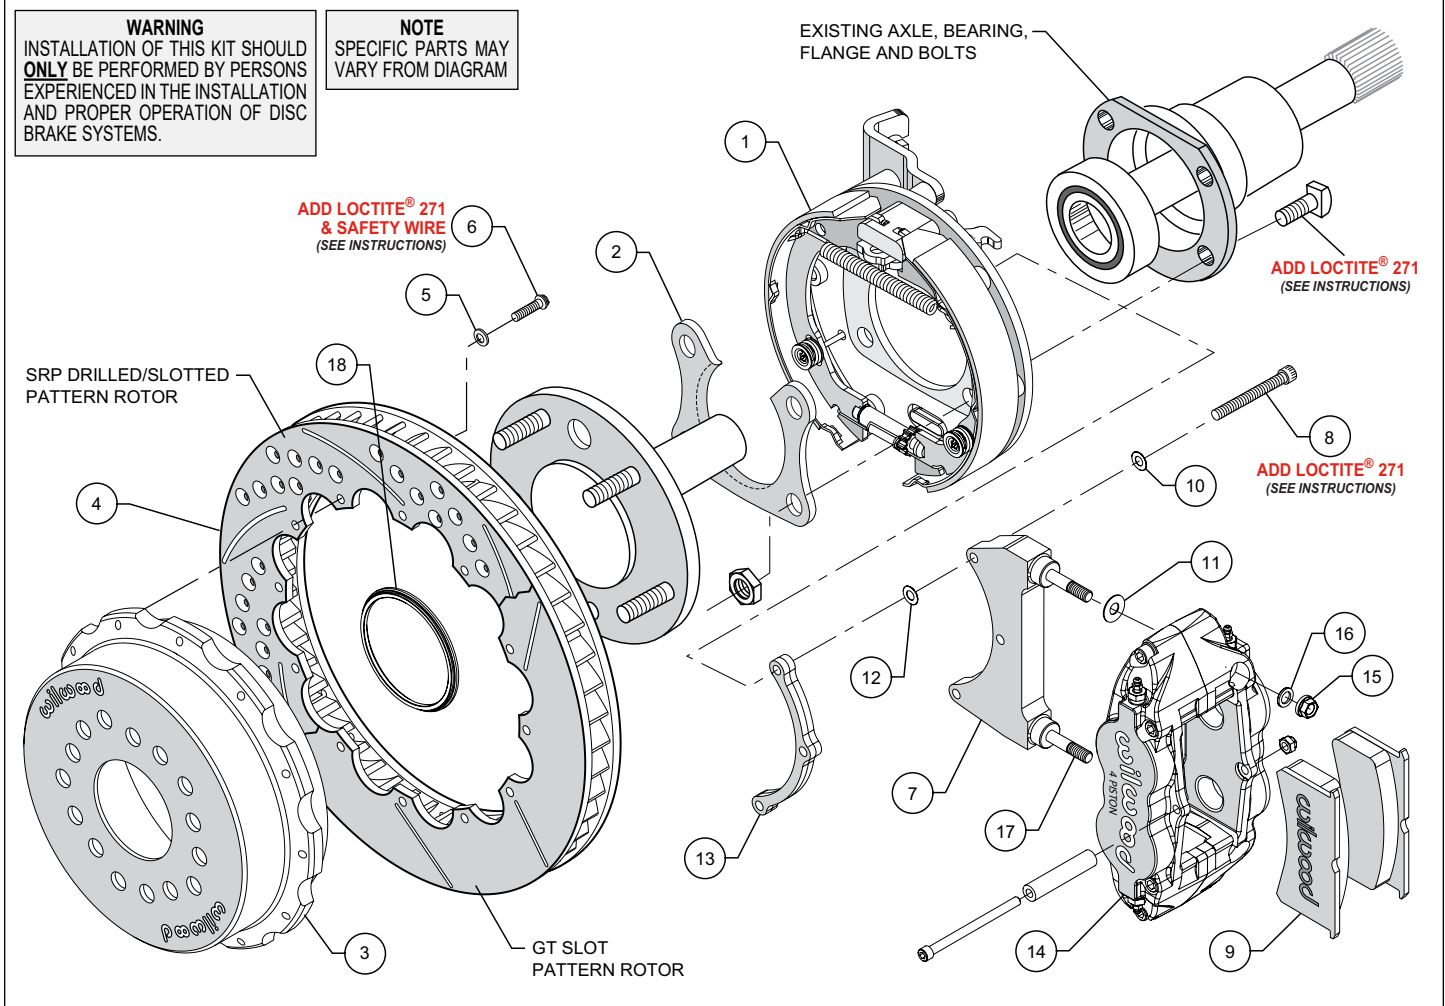

Figure 1. Typical Installation Configuration
NOTE: Numbers in parenthesis refer to the parts list and Figure 1 on the preceding pages.
- Slide the bracket kit assembly (1) onto the housing flange and then insert the axle assembly through the center hole of the bracket kit assembly (1). Align the bearing retainer, as shown in Figures 1 and 4, and secure using the stock Original Equipment Manufacturer (OEM) bolts and nuts. Stock OEM hex nuts that retain the bracket kit assembly (1) and retainer (2) should be on the wheel side of the bracket. Apply red *Loctite*® 271 to the stock OEM bolt threads and torque to OEM specifications. Make sure the bracket kit assembly (1) brake pads are FACING OUTWARD TOWARDS THE WHEEL.
- **NOTE:** Please reference the caution statement at the beginning of the assembly instructions. The caliper mounting bracket assembly (7) should be installed first with clean, dry threads on the mounting bolts (8). Install the bracket from the rear side of the bracket kit assembly (1) by sliding bolt (8) through flat washer (10), bracket (7), shim washer (12) and finally through the spacer (13), see Figure 1. **NOTE:** End of bolt should not exceed inside face of insert. The bracket must tighten squarely against the back side of the bracket kit assembly (1). Inspect for interference from casting irregularities, machining ridges, burrs, etc. Use one thin shim (12) between the bracket (7) and spacer (13) during initial trial fitting.